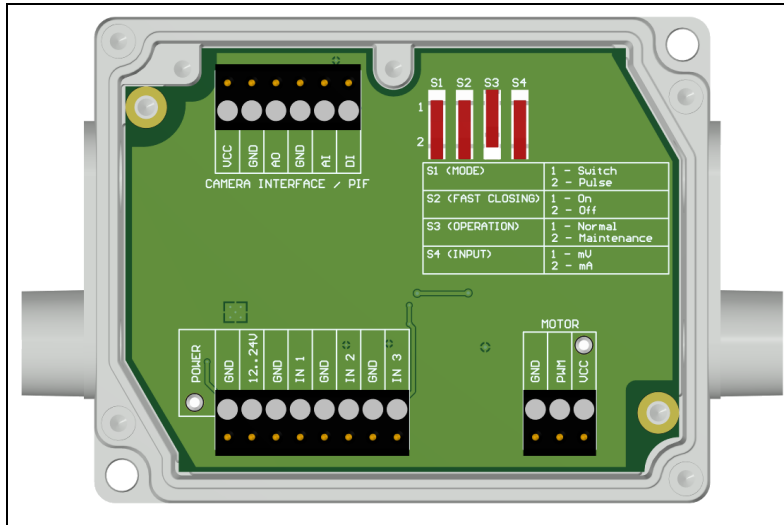

Figure 16: Control box of shutter, dimensions (see **Figure 8**)
- When using more than one shutter and the opening / closing of the shutter should be simultaneously, the switch S4 on one control box must be set to mA and the others to mV (see **Figure 16**).